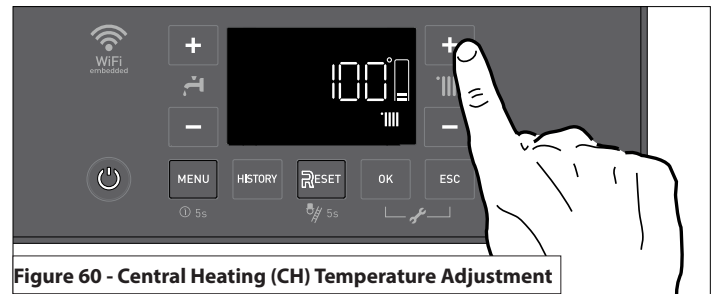

Figure 60 - Central Heating (CH) Temperature Adjustment
**C. Central Heating (CH) Temperature Adjustment**
It is possible to adjust the central heating (CH) temperature setpoint from the home screen by pressing the CH +/- buttons. See Figure 60. The allowable operating range is limited by the Max and Min Temperature Settings (e.g., Parameters 4.2.5 and 4.2.6) which are adjustable via the Technical Menu. See P. Technical Menu - Access and Navigation.